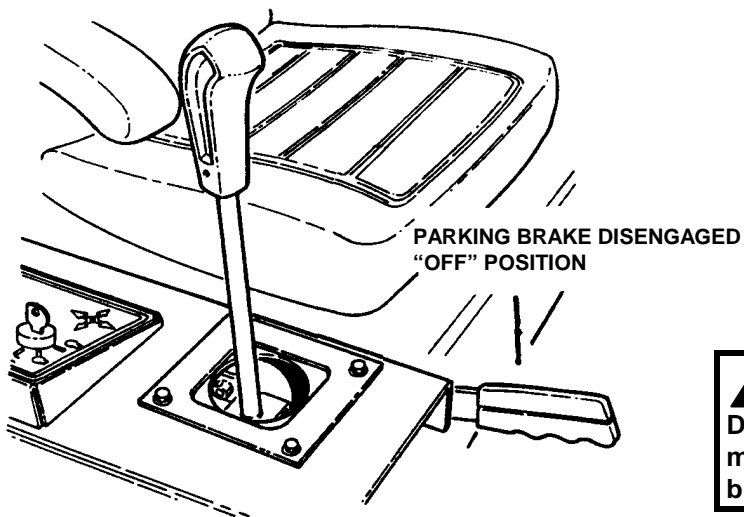

FIGURE 2.9
2. Release parking brake by moving brake lever down to the "OFF" position. See Figure 2.9.